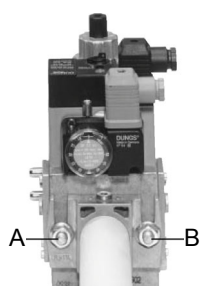
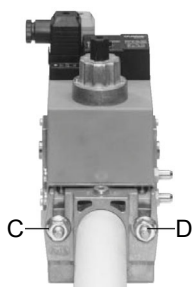
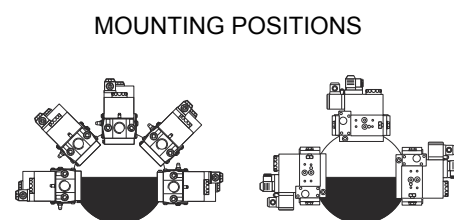

Fig. 1
Fig. 2
Fig. 4
3. tighten screws A, B, C and D (Fig. 1 - Fig. 2), according to the mounting positions (Fig. 4);